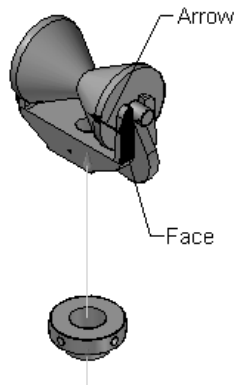

Figure 12-23 Arrow showing the direction of explosion
4. Select the face of the stationary part, as shown in Figure 12-23, to display a red arrow on it.
5. When the arrow points in the direction shown in Figure 12-23, click to specify the direction.